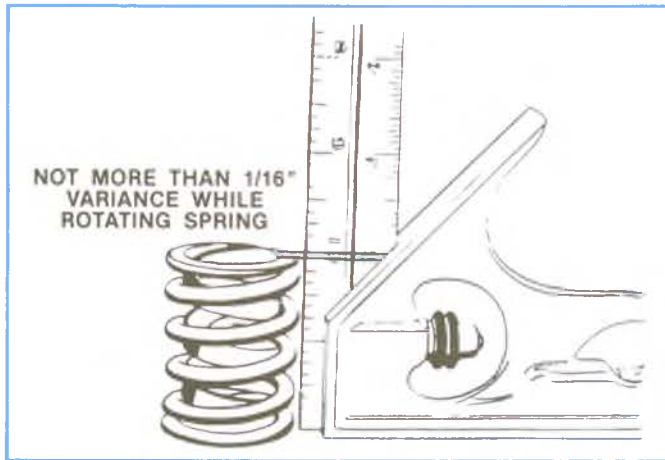

Figure 2-11, Checking Valve Spring.
- a. Occasionally this noise can be eliminated by rotating the valve spring and valve. Crank engine until noisy valve is off its seat. Rotate spring. This will also rotate valve. Repeat until valve becomes quiet. If correct is obtained, check for an off square valve spring. If spring is off square more than $1/16$ " in free position, replace spring. (Figure 2-11).